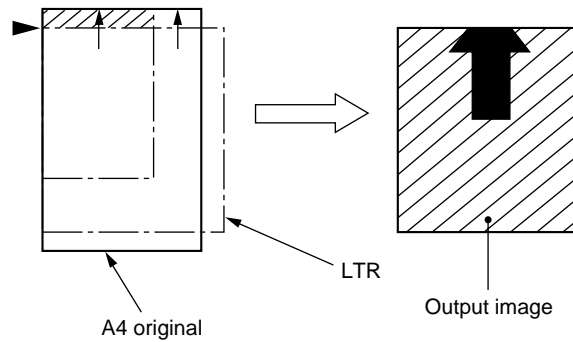

Figure 3-405
- The original will be identified as LTR. Since enlargement will be with reference to the triangle in Figure 3-405 (▶), the shaded area will be missing.